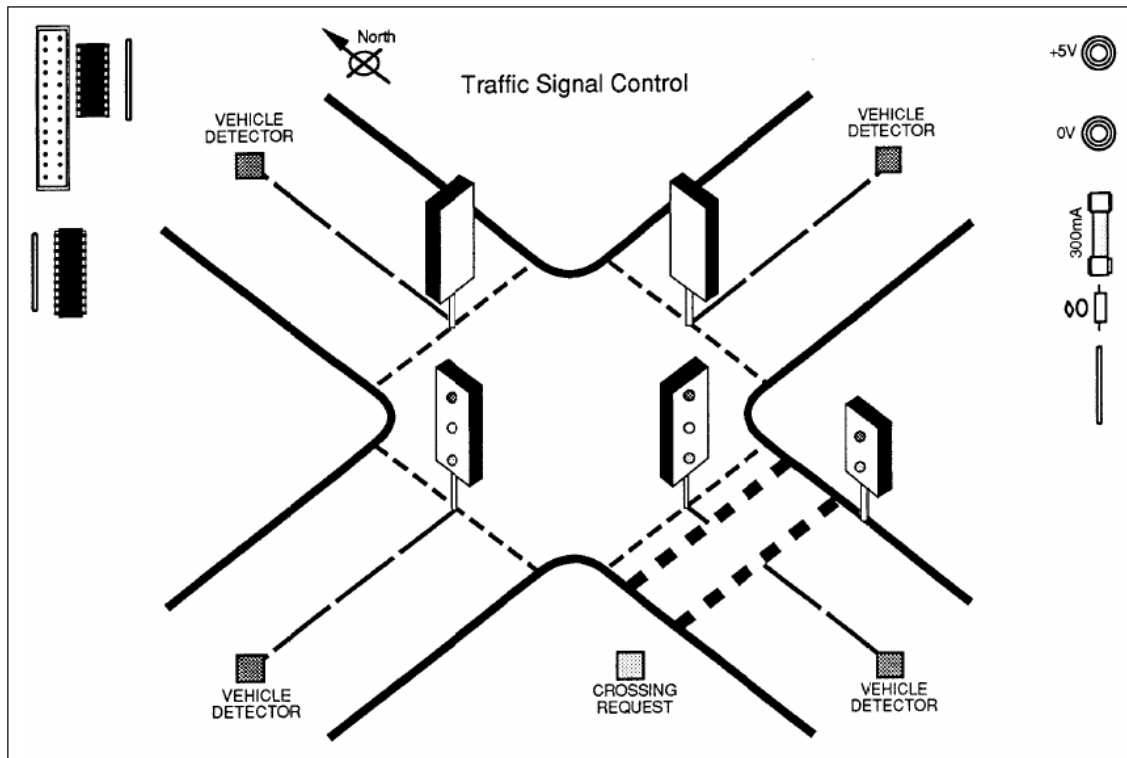

Fig. 1 – Layout
The traffic signal control module is an interactive mimic diagram of the traffic and pedestrian control lamp signals at a crossroads with one pedestrian crossing. It is designed to be controlled by a range of PLC's for the purpose of providing exercises in the use of PLC to monitor and control external objects. The Layout of the module is as shown in Fig. 1.
- A fiber glass panel with a mimic diagram of a crossroads with a pedestrian crossing and traffic controls signals as shown in Fig. 1. The panel contains:
There are also 5 PLC Inputs that correspond to Pushbuttons which can be used to simulate vehicle detection, as well as Pedestrian Crossing Requests, as shown in Fig. 1. The wiring on the PLC for these inputs is as shown in the below table.